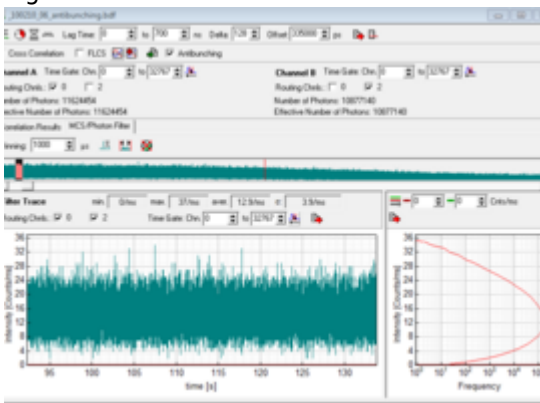

Figure8: No bleaching visible. reduction in count rate is due to mechanical drift (inhouse II) on wheelbarrow
- when measuring the fluorescence intensity of a single NV center, the count rate should stay stable. The time trace in figure 8 shows a reduction of the countrate due to stage drift (temperature etc, or in this case probably because the MT200 inhouse II was mounted on a wheelbarrow instead of an optical table)